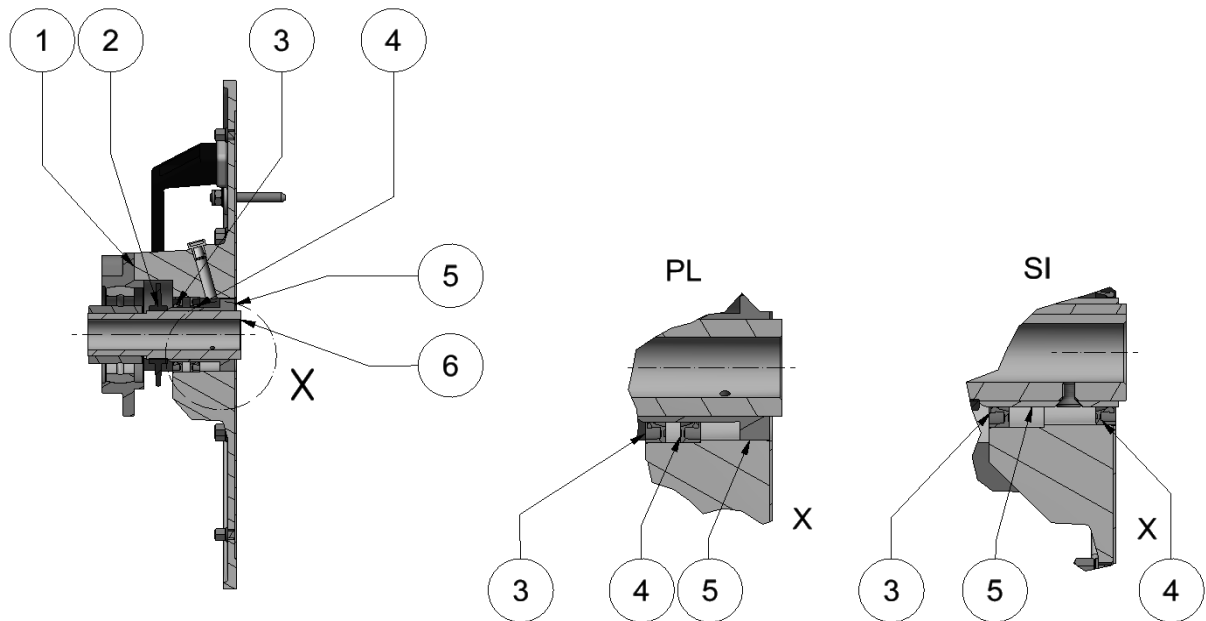

Fig. 9-18 Cover housing: Removing bushing, ejector plate, shaft seal
4. Push bushing (6, Fig. 9-18) out of bearing.
5. Remove ejection plate (2, Fig. 9-18) from housing cover(accessed from below through opening in bearing housing).
7. Remove the bearing (1, Fig. 9-18) from the cover housing.
8. Remove the shaft seals (3, 4, Fig. 9-18) out of the bearing housing.
2. Press the shaft seal into the bearing housing. Make sure the shaft seals are fitted in the correct position, see detail X in Fig. 9-18 .